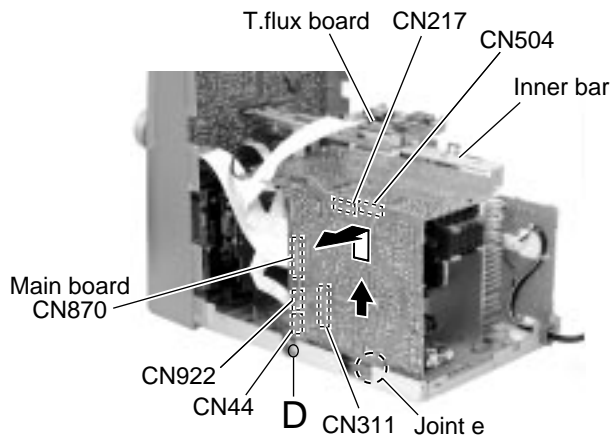

Fig.21
■ Removing the main board (See Fig.21)